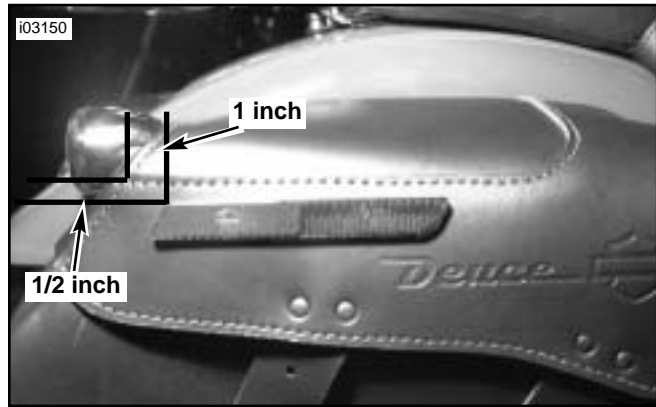

Figure 21. Reflector Installation
1. See Figure 21. Locate the area at the corner section of the saddlebag where threads intersect. Install the reflector approximately 1 inch toward the front of the vehicle from the back corner and approximately 1/2 inch down from the top of the corner.